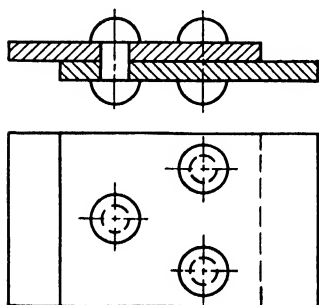

Fig. 234.—Lap joint,  $\frac{5}{64}$  in. diameter, 53S-T rivets, driven cold as received.
4. Find the strength of the lap joint shown in Fig. 234.